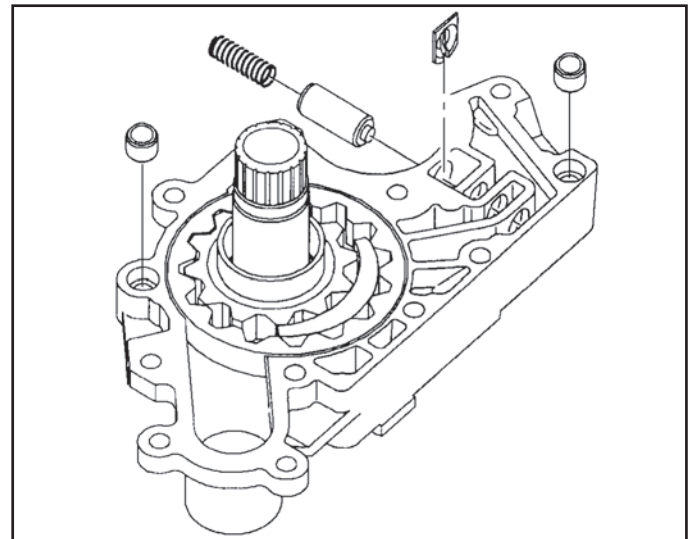

Figure 150
8. Inspect the dowel pins for wear and ensure that they are pressed down into the housing (See Figure 150).
9. Clean and install the lube relief valve, spring and retainer as shown in Figure 150.